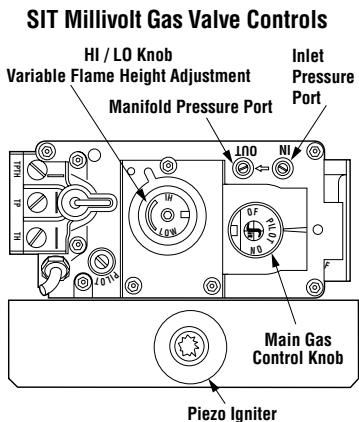

Figure 27
- Loosen setscrew at inlet pressure tap on upper right of control valve (see **Figure 27 on Page 27**).
With gas line installed run initial system checkout before closing up the front of the unit. Follow the pilot lighting instructions on **Page 34** (or pull out the instruction label located in a holder on rear shield of stove) . For piezo igniter location see **Figure 27**.